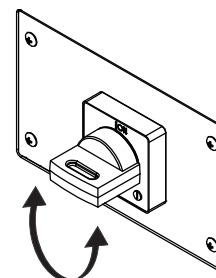

Figure 8-2
- The Main Start Switch "ON" (Figure 8-2)